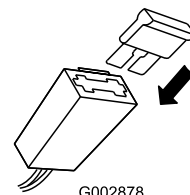

Figure 8
2. Install the fuse in the fuse holder (Figure 8).